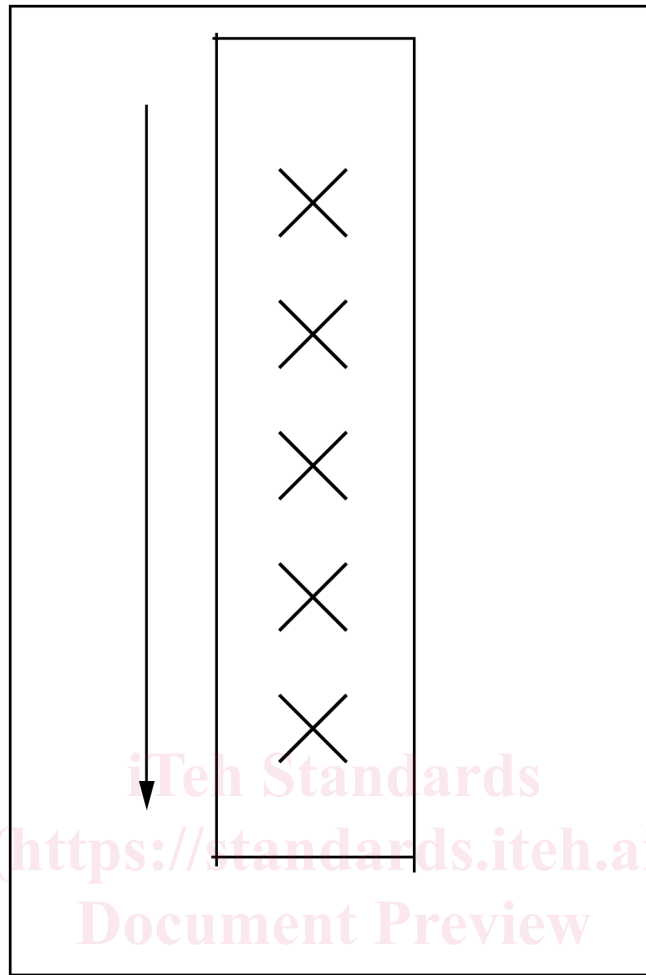

FIG. 1 Illustration
4.1 Since environmental conditions such as temperature, humidity and air flow can result in variable results, it is recommended that this test method be performed in a constant temperature / humidity room ($23 \pm 2^\circ\text{C}$ ($73.5 \pm 3.5^\circ\text{F}$)) / $50 \pm 5\%$ relative humidity. Test paints are applied to the center of a sealed chart with a 76 microns (3 mil) wet film thickness. X marks are made immediately. The number of X marks will depend on how many can fit on one drawdown (see Fig. 1). The test paint is then applied in perpendicular sections, brushing each section across the initial painted section. The perpendicular sections are repeated at agreed upon time intervals. After drying, wet edge is recorded as the last time the test paint could be brushed into the initial painted section without the edges of the first coat being visible. The time at which the X marks become visible is also noted.
7.3 Along the length of the panel, drawdown 76 microns (3 mil) wet film thickness of the test paint (see Fig. 1). The drawdown must be free of ridges, craters, or other imperfections.
7.5 Immediately make X marks approximately in 4 cm (1½ in.) wide and 4 cm (1½ in.) long in four to five different areas on the drawdown, as shown in Fig. 1.